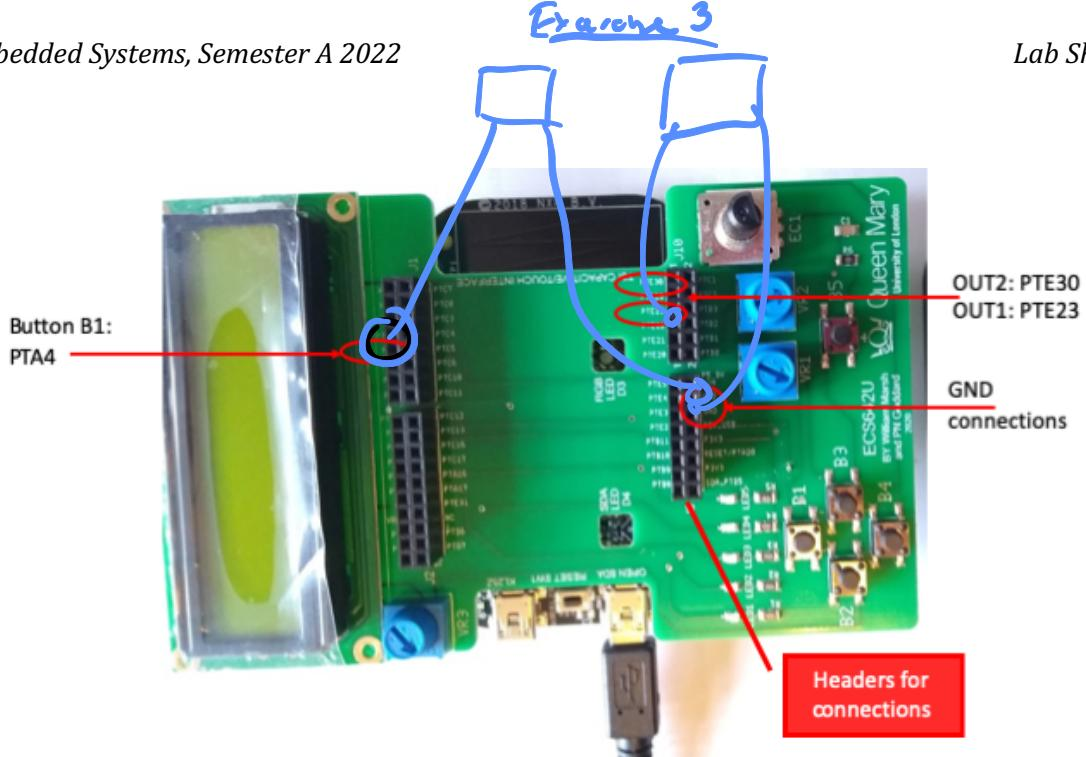

Figure 1: Location of the Connections on the Shield
- Connect this output to the oscilloscope to the red oscilloscope lead (see Figure 1)
- Connect the KL25Z GND to the black oscilloscope lead (see Figure 1).
3. As before, connect OUT2 to the oscilloscope. Ensure the oscilloscope GND is connected to KL25Z GND (see Figure 1).
- On the other channel of the oscilloscope, connect the PTA4 (which is the GPIO pin used for button B1) – see Figure 1.